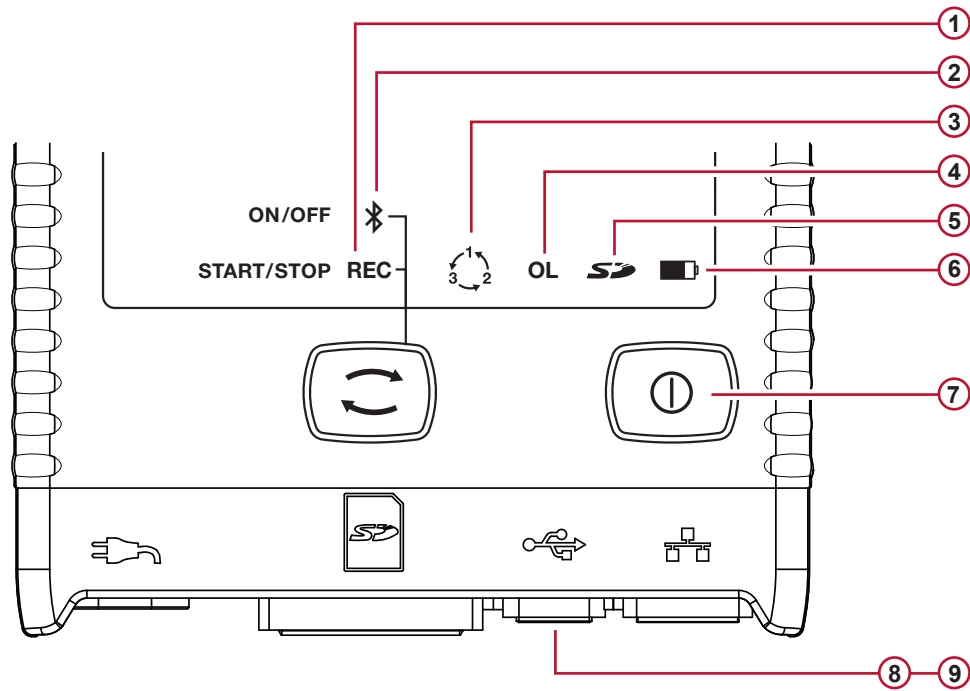

Figure 9
- The green REC LED (see #1 Figure 9) lights up for 3 s, followed by the blue Bluetooth LED (see #2 Figure 9) for 3 s - one after another. During the time each LED is lit you can control its associated function as described below.